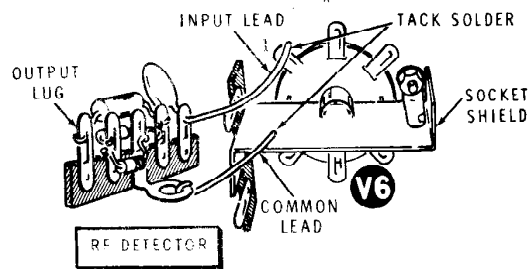

Figure 8-2
- () Refer to Figure 8-2 and tack solder the input lead of the RF detector to lug 3 of tube socket V6 in the Transverter. Tack solder the common lead to the socket shield. Make sure these leads do not touch anything else.